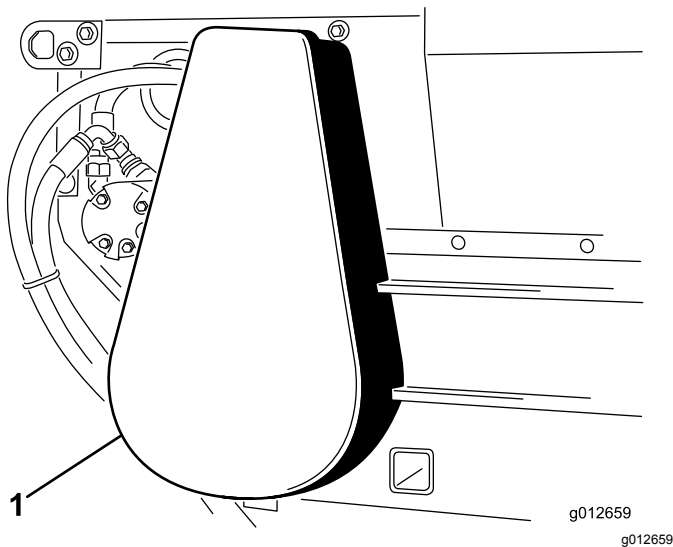

Figure 22
1. Remove chain cover (Figure 22).